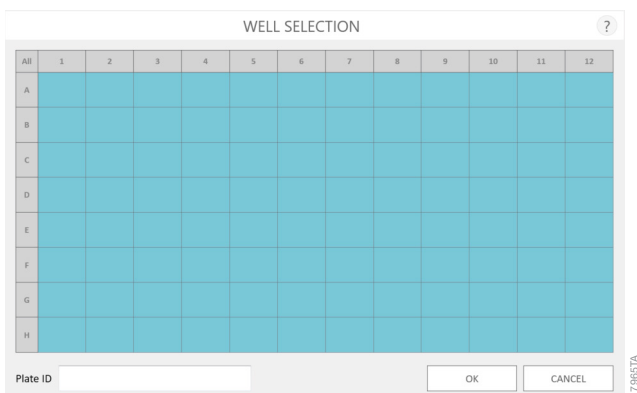

Figure 37. 'Well Selection' screen.
- Select the **Plate Map** (Figure 37).